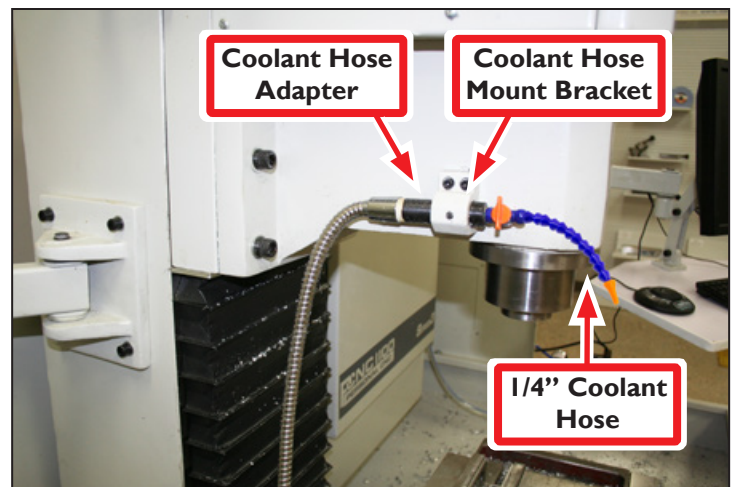

Figure 13
1. If mill is equipped with flood coolant kit, remove 1/4" Coolant Hose and Coolant Hose Mount Bracket (see **Figure 13**); set aside.